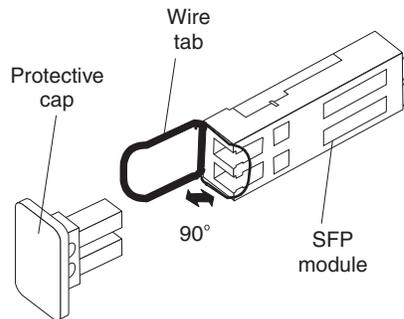

Figure 33. Unlocking an SFP module - wire tab
- a. Unlock the SFP module by pulling the wire tab downward 90° (see Figure 33).